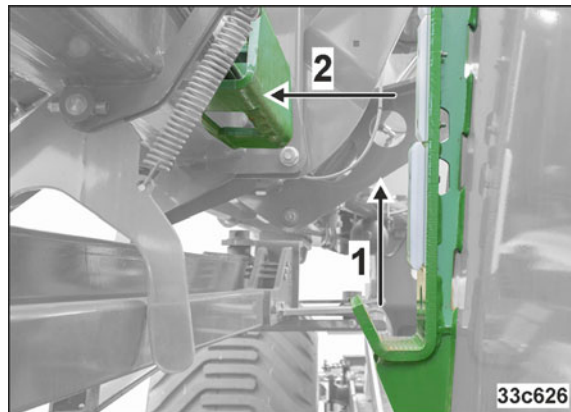
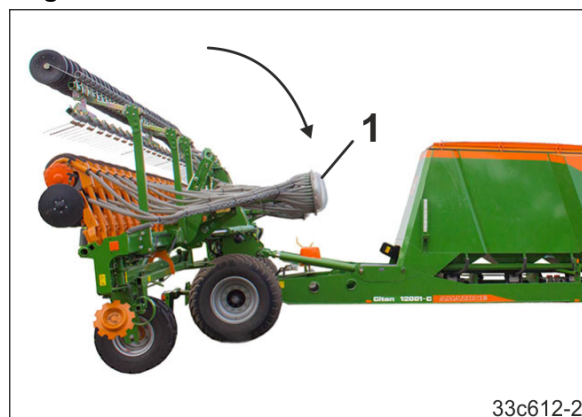

Fig. 225
Fig. 226
Drive the tractor in front of the implement at a slight angle. This makes the catch hooks (Fig. 225/1) for the implement sections more visible.
3. Keep actuating the *yellow* control unit until both implement sections are released from the transport sockets (Fig. 225/1).
Keep actuating the *green 1* control unit until the implement sections (Fig. 225/2) and the distributor heads are unfolded (Fig. 226/1).